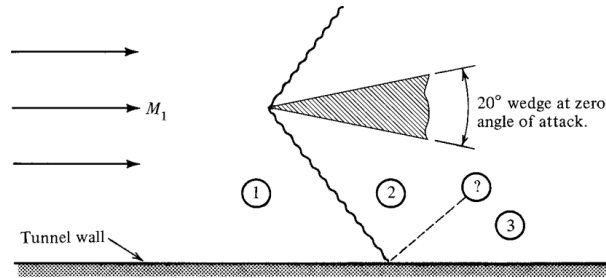

Figure P7.15
7.15 For the flow situation shown in Figure P7.15, $M_1 = 1.8$, $T_1 = 600$ °R, $p_1 = 15$ psia, and $\gamma = 1.4$.